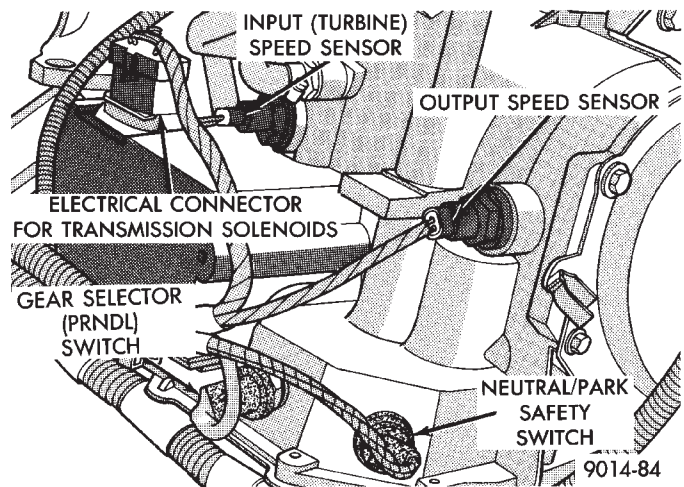

Fig. 15 Automatic Transmission Electrical Connections
(24) Inspect engine harness to main harness connections.
(25) Check all automatic transmission electrical connections (Fig. 15).